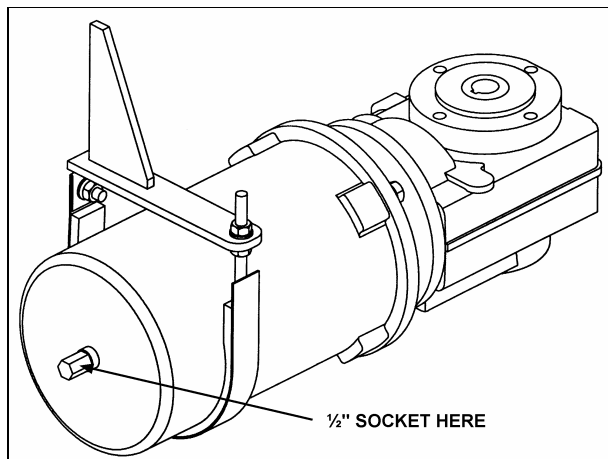

FIGURE 4
10. If the slide-out is not lined up with the vehicle exterior, move the slide-out using a ½" socket on the back of the slide-out motor (refer to figure 4).